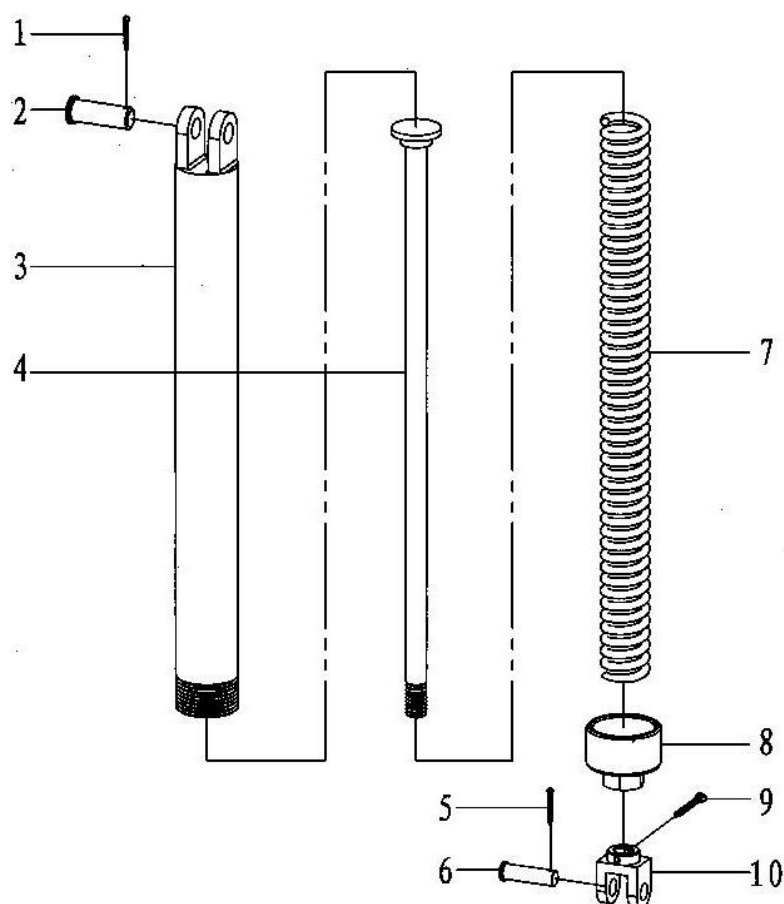

Fig.8-15
8.15 Spring hanger assembly and parts list(Fig.8-15,Table 8-15)